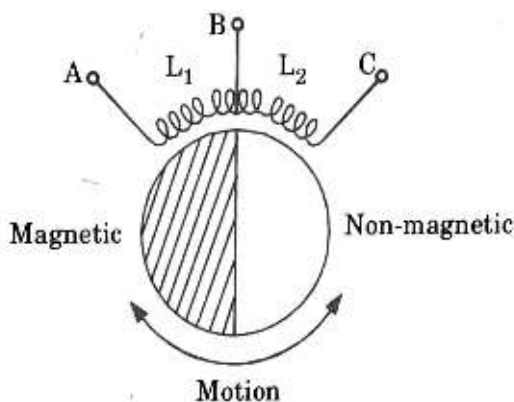

Fig. 5.11.5. Variable inductance transducer for rotary motion.
- Fig. 5.11.5 shows a variable inductance transducer for measuring angular displacement or torsional motion. One half of the core is made of a magnetic material while the other half of non-magnetic material. In the variable inductance transducer, shown in Fig. 5.11.5 a small air gap in the magnetic flux path of an electromagnet is varied. The inductance of one coil increases while that of the other decreases.